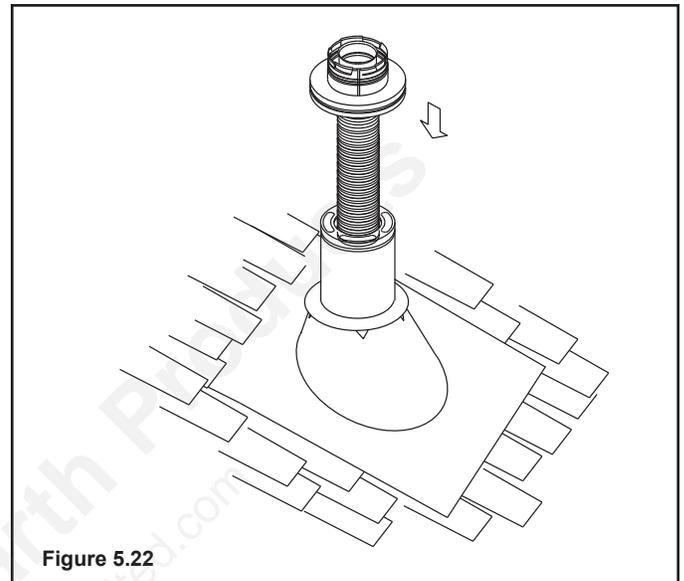

Figure 5.22
4. Pass the flex pipe down through the center of the chimney system, and center the top adapter on the top of the chimney pipe. Drill four 1/8 in. (3 mm) diameter holes through the top adapter, and into the chimney top. Ensure that you are drilling into the metal on the chimney. Twist lock the high wind termination cap onto the top adapter (Figures 5.22 and 5.23).